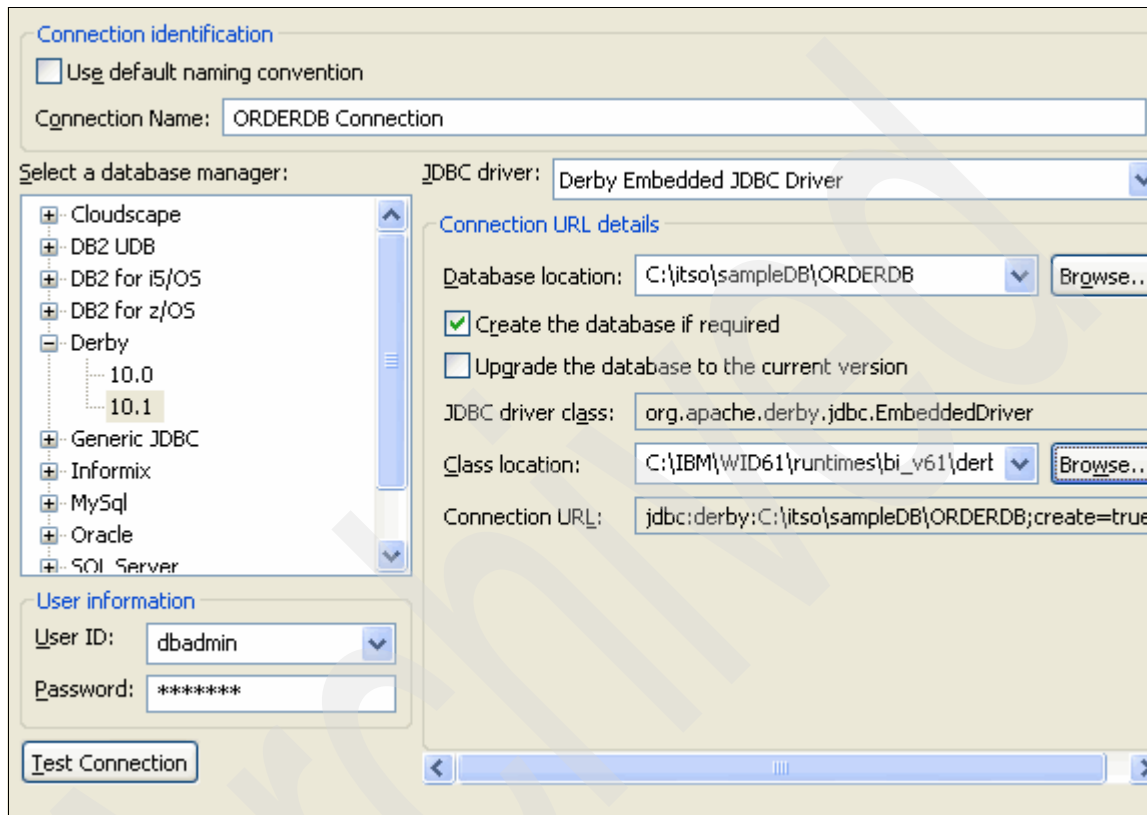

Figure A-2 Create a new database connection
3. On the New Connection panel (Figure A-2 on page 455) select the following options: